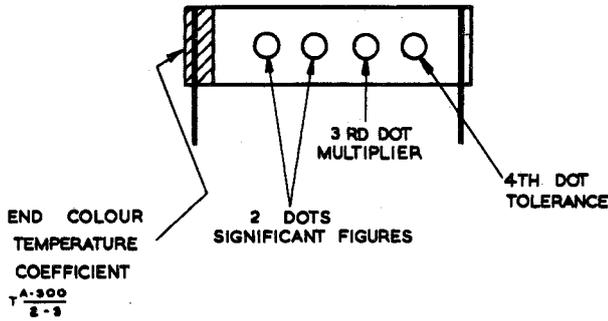

Fig 3 - UK colour coding - ceramic capacitors
11. The significance of the colours used to indicate tolerance and temperature coefficient are shown in Table 3, and the relative positioning of the colours used is shown in Fig 3.